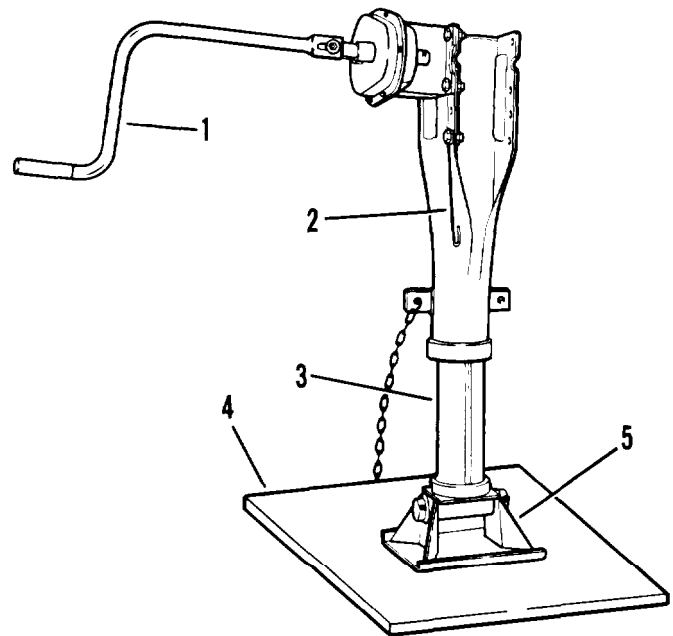

Figure 2-21. Lowering landing gear
- (1) Unhook crank (1, figure 2-21) from crank holder (2).
- (2) Raise the crank (1).